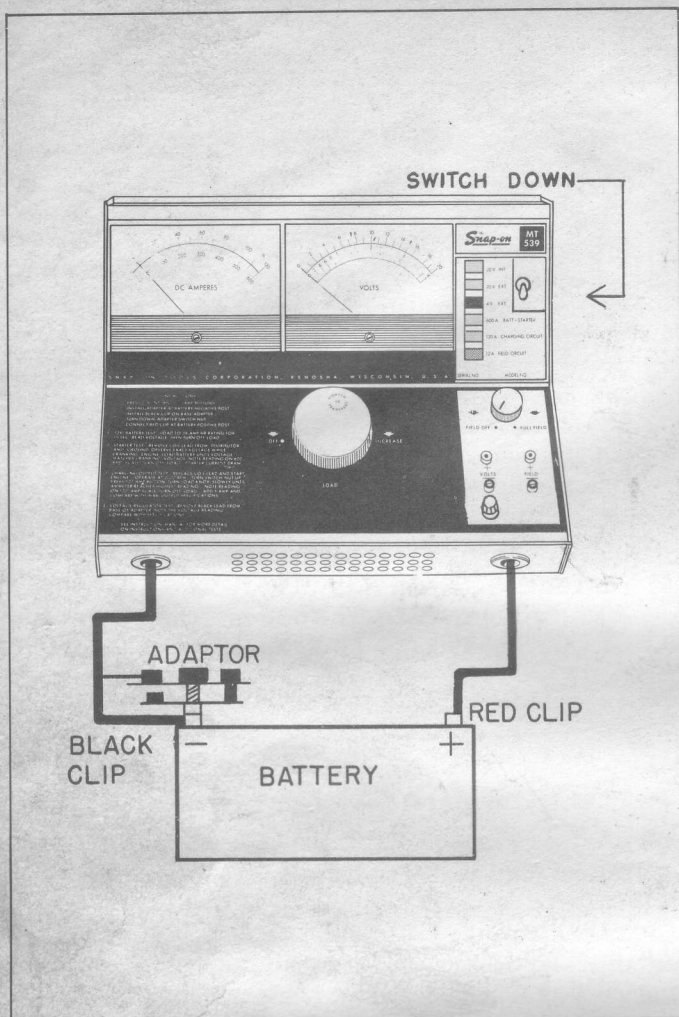

Figure 1 — Connections for Battery Load and Starter Draw Tests. Negative Post Hook-up.
5. Connect the red clip to the opposite battery terminal. (See figures 1 and 2.)